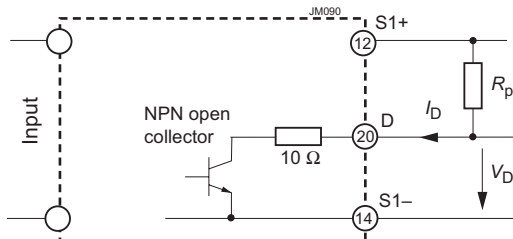

Fig. 12
- Out OK; see *Output Voltage Monitor* and fig. 12